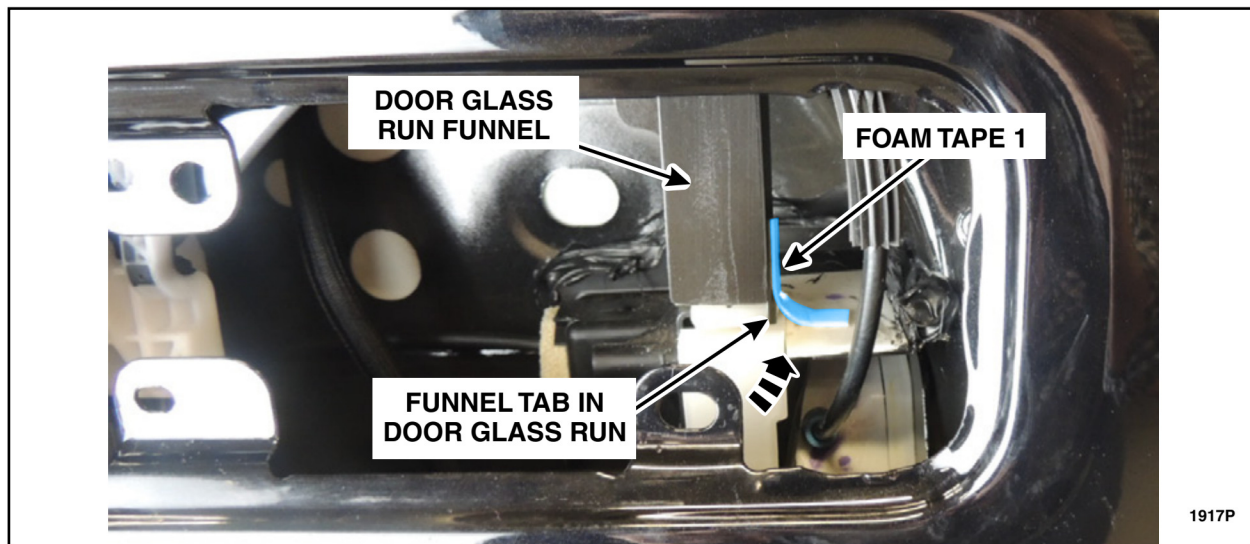

FIGURE 49
32. Using a clean shop towel and isopropyl alcohol clean the area where the *new* foam tape 1 will be applied, from any dirt, dust or debris. Then, install the *new* foam tape 1 in the location shown, from though the exterior door handle opening, to hold the funnel in place. See Figure 49.